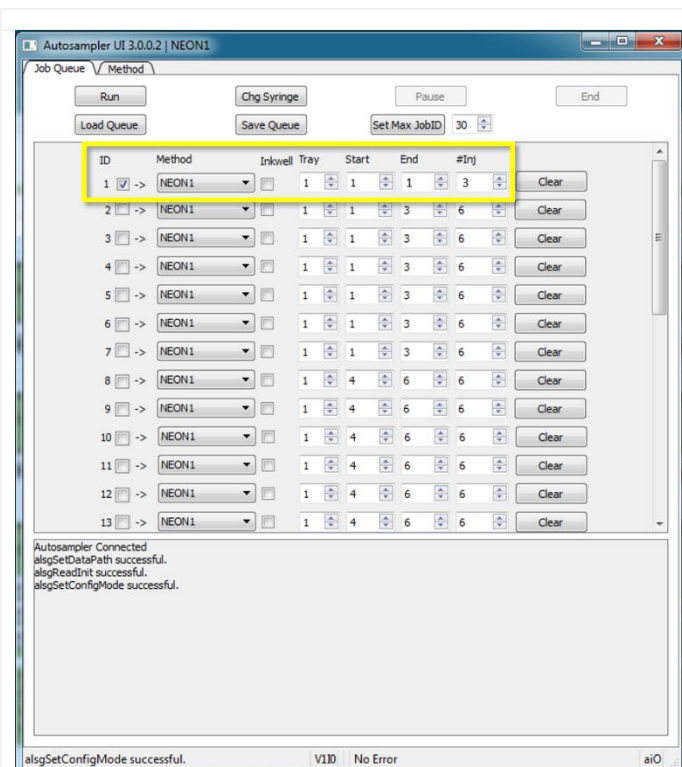

Figure 177. Select the First Row only.
STEP 18 | In the **NEON1** configuration, select only the first row (Figure 177).